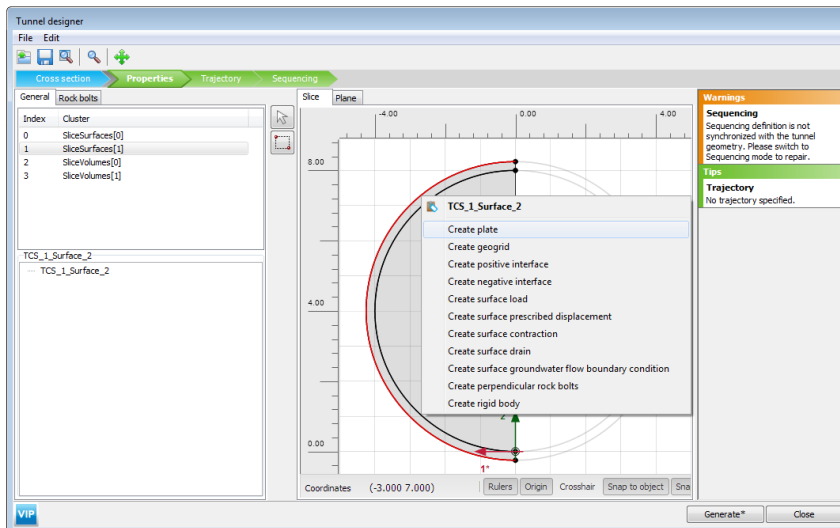

Figure 5.6 The *Properties* tabsheet of the *Tunnel designer* for the creation of a *Plate*
- In the *Slice* tabsheet, right-click the outer surface and select *Create plate* from the appearing menu (Figure 5.6).